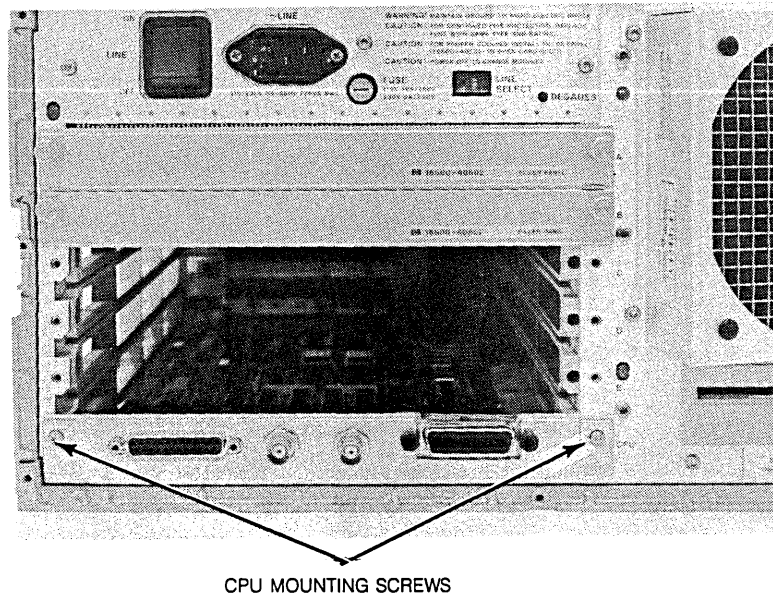

Figure 6-35. Microprocessor Board Mounting Screws
- c. With a Torx T-10 driver, remove the two rear panel mounting screws (see figure 6-35).